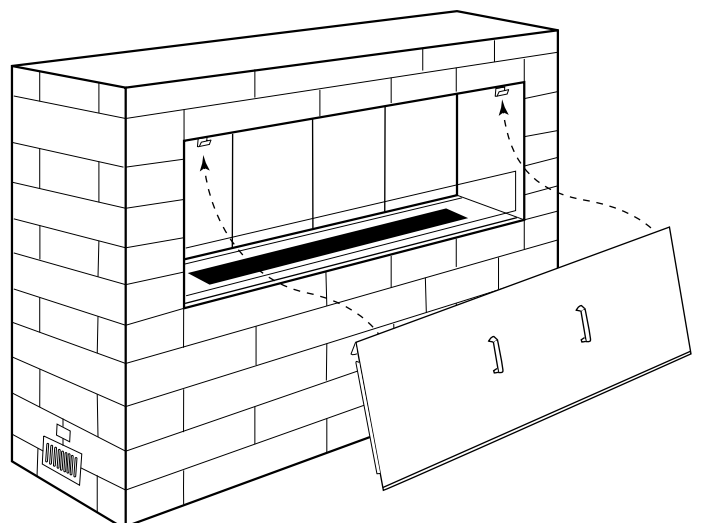

Fig. 5. Installing cover into fireplace.
Step 5: Install cover, top first, aligning the holes of the cover over the spacers, then resting the bottom edge inside of the opening of the fireplace (See Fig 5). The cover should be flush with the outer face of the fireplace.